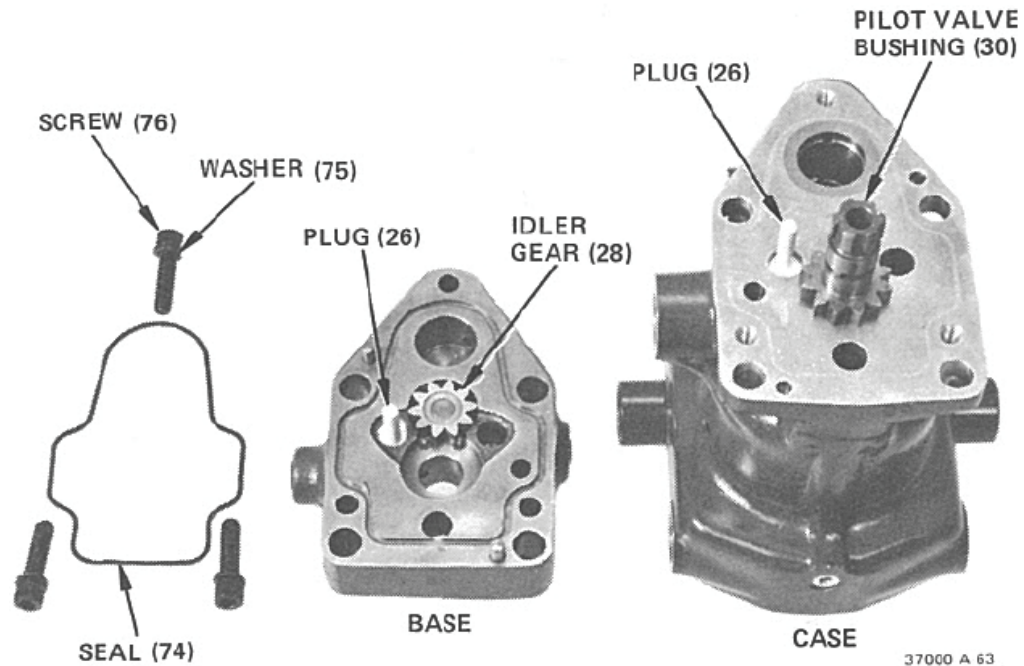

Figure 3-14. Base to Case Assembly
9. Assemble base (23) to case (1) with parts as shown in Figure 3-14. Insert bushing (30) in case and idler gear (28) in base. Place oil seal ring (74), flat wide side down, in groove provided in base. Secure base to case with three screws (76) and washers (75). Check that the pilot valve bushing rotates freely. It may be necessary to loosen the base, free the gears and then retighten the base.